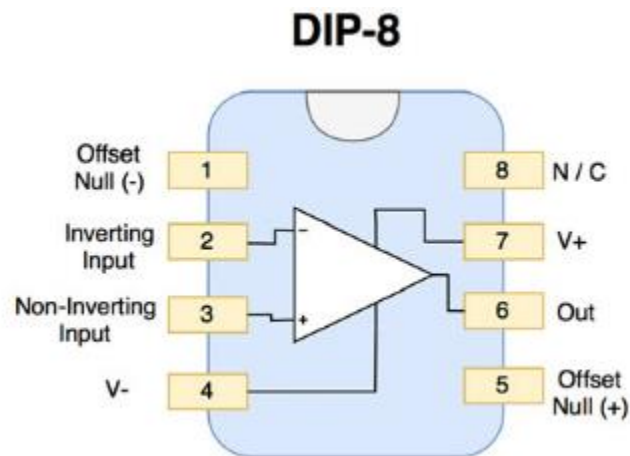

Fig.2.2. Pin diagram of 741 Op-Amp IC
There is no internal "ground" or "common" connection; voltages are measured relative to the common connection of the two power supplies. Pin diagram of 741 integrated circuit (IC) package is shown in Fig. 2.2.